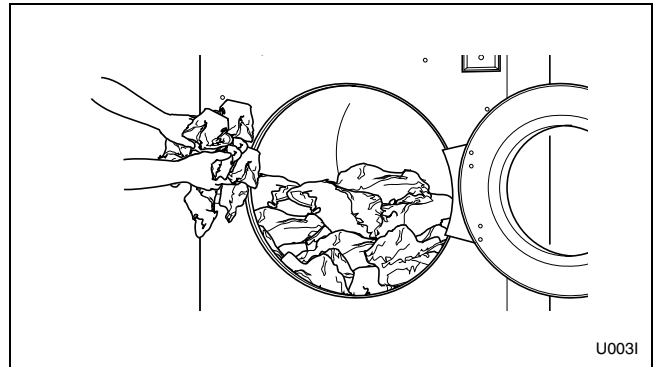

Figure 5
3. Load to capacity whenever possible. DO NOT OVERLOAD. Refer to *Figure 5*.